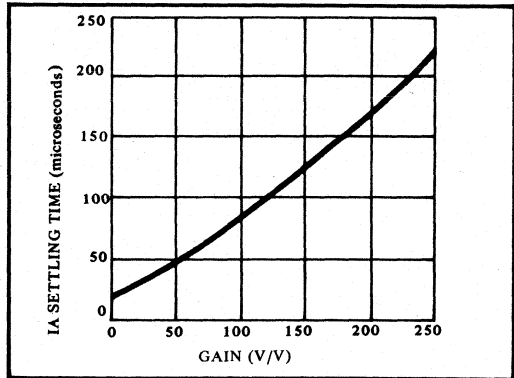
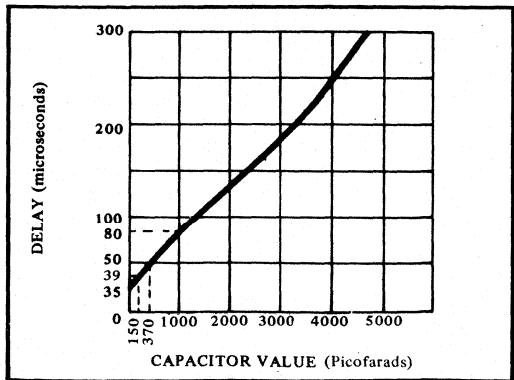

FIGURE 4. Typical IA Settling Time vs. Gain (Output Settling to ±0.1%).
FIGURE 5. Typical Delay Time vs. Capacitor Value.
4) Start conversion, then go to a different part of the program. The MP21 will interrupt at the end of conversion. The interrupt mode is very useful when the MP21 is at high gains with conversion times longer than 40µsec, see Figure 4. (MP21's INT line, pin 44, connected to the 6800's IRQ line, pin 4.)
A delay time between channel selection and start of conversion is built into the MP21 to allow the analog multiplexer and instrumentation amplifier (IA) time to settle before starting the A/D converter. As the gain of the amplifier is increased, the settling time required increases. The factory set delay time (35μsec) is sufficient for gains of up to 10. At higher gains, a capacitor must be added from pin 49 to the +5 VDC supply to increase the delay time. Figure 4 shows the settling time of the MP21 vs. gain. Figure 5 shows the value of capacitance required to increase the delay.
with this formula:  $T_D = \sqrt{T_{mux}^2 + T_{IA}^2}$ , where  $T_{mux}$  is the settling time of the multiplexer and  $T_{IA}$  is the settling time of the instrumentation amplifier as shown in Figure 4. If the source bandwidth can be limited, high impedance sources may be accurately handled by placing a large capacitance across the multiplexer input. An analysis of such a circuit shows that a capacitor of 0.5μF is sufficient. For such a capacitance the multiplexer time constant becomes 80ns.